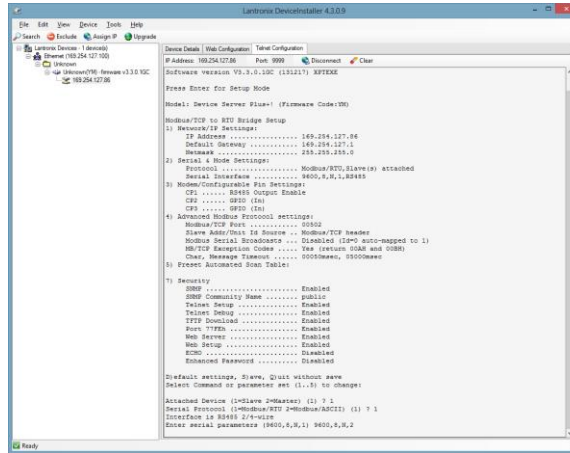

Fig 6.7.1
6.7 As shown in fig 6.7.1, enter (9600, 8, N, 2) to imply “Baud rate = 9600, Databit = 8, Parity = None, Stop bit = 2”.